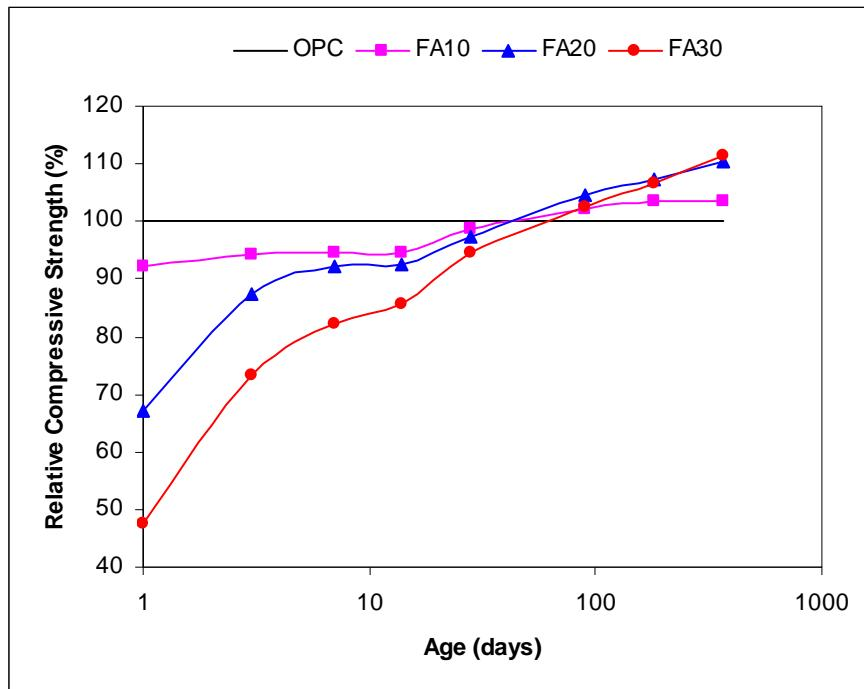

Figure 2
- (c) Discuss the strength development characteristics of the fly ash concrete as shown by the relative strength plot in Figure 2.